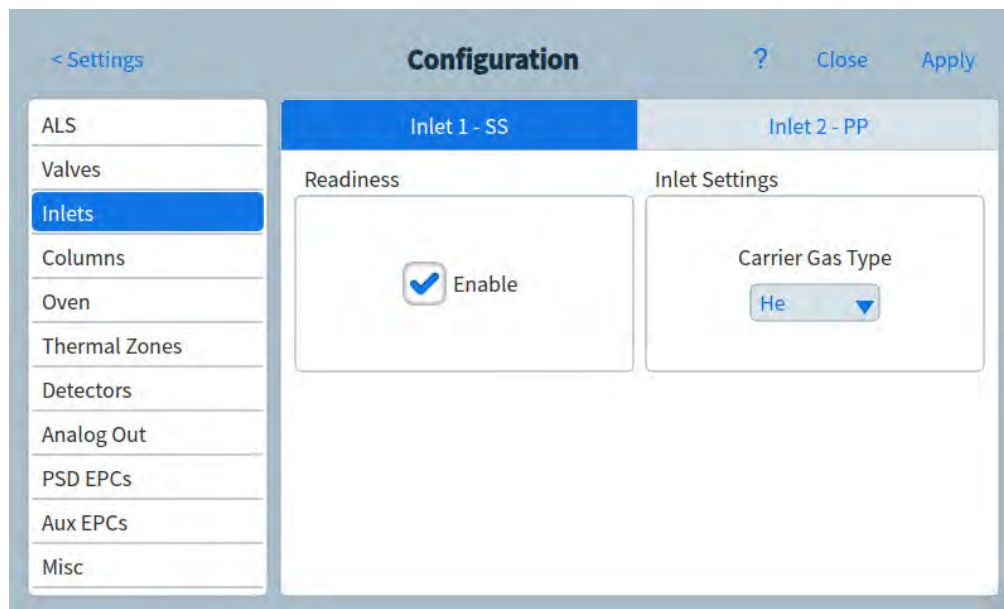

Figure 59. Inlets page
- 1 Select **Settings > Configuration > Inlets**. The properties for the selected device type appear on the right side of the screen. See **Figure 59**.